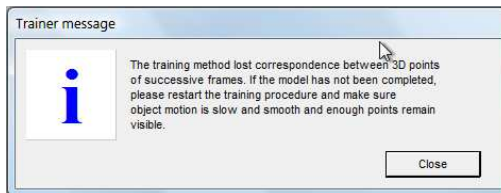

Figure 6.11. Correspondence lost
3. Slowly and smoothly move and rotate the object in front of the Personal Space Tracker such that all markers will be shown to the system. Make sure that three or more markers always remain visible during motion. In case not enough markers remain visible, training is aborted and the window as shown in Figure 6.11 appears. In this case, close the window and restart the training procedure. If the problem persists, check that the device has enough visible markers from each angle.